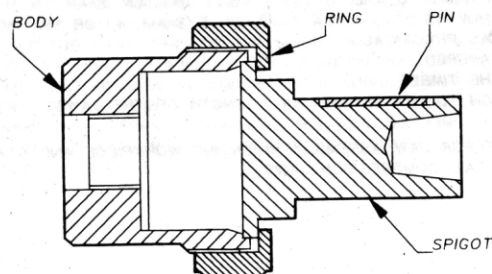

Fig. 9
1. PLACE THE SPIGOT INTO THE BODY RECESS AS SHOWN IN Fig. 9